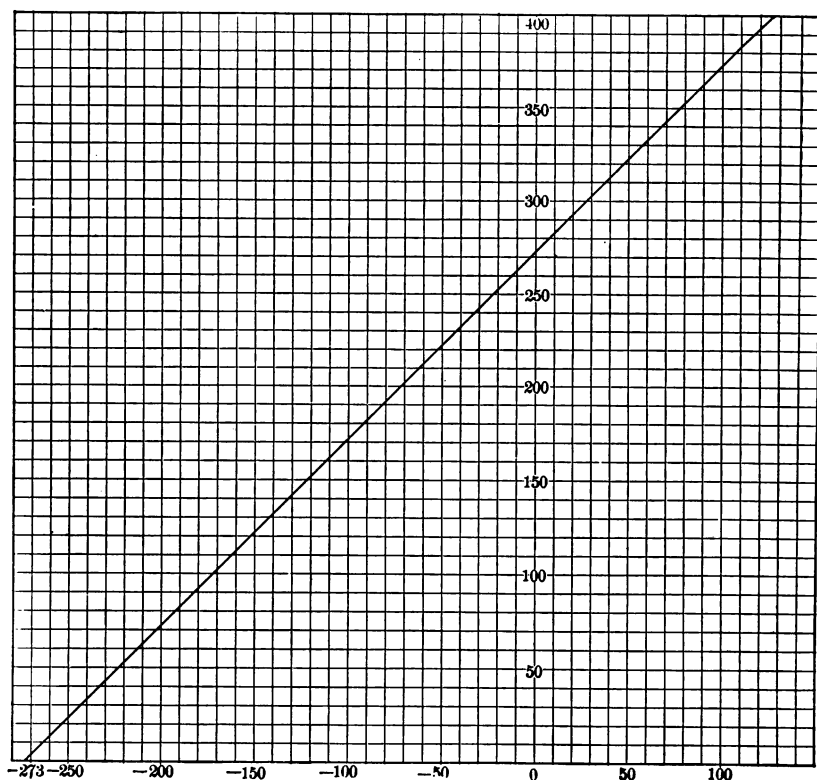

FIG. 42.
M. Yes; what is called surface-tension makes the mercury curved, and the air can not pass except through the narrow groove between the glass and the hair. But we will go back to our experiment. We will make a diagram (Fig. 42). The horizontal line stands for a thermometer. At the mark 0 water freezes, at 100 it boils.* Each millimetre stands for one degree.
* Fig. 42 is reduced to a quarter of its right size.